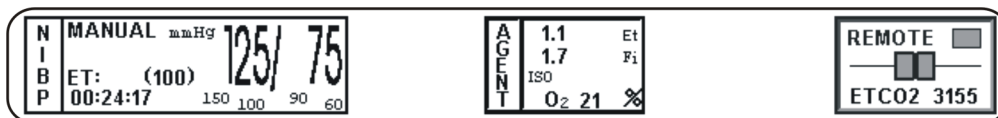

Figure 1-8. The Bottom Vital Signs Numeric Display
1.3.3 NIBP, Agents and Remote Display. (See **Figure 1-8**) The NIBP, Agents and Remote Displays are located at the bottom of the display screen with the NIBP Icon located to the left, the Agents Icon in the center and Remote to the right. While not in “dual monitor” mode and using a 3155MVS alone, the Agents Icon will not be available for display. This Display is divided with boxes that provide the operator with numerical indications of the NIBP, Agents and a visual indication that the monitor is in the Remote Operation Mode along with the source of ETCO2 (3155 or 3150).